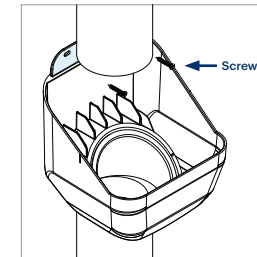

Figure 5
5. Using the screw slots provided, screw your Leaf Eater Advanced into position. Ensure appropriate screws (and anchors if required) are used (Figure 5).
6. Screw your Leaf Eater Advanced into position using the screw slots provided. Use appropriate screws (and anchors if required) (Figure 5).